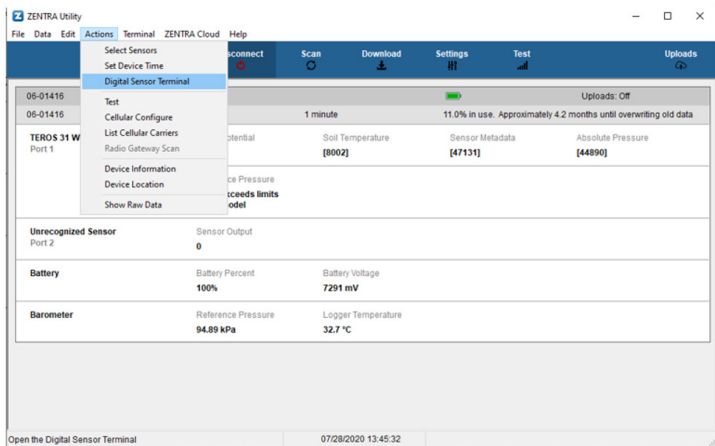

Figure 16 Open Digital Sensor Terminal in ZENTRA Utility
3. Open the Digital Sensor Terminal (Figure 16).